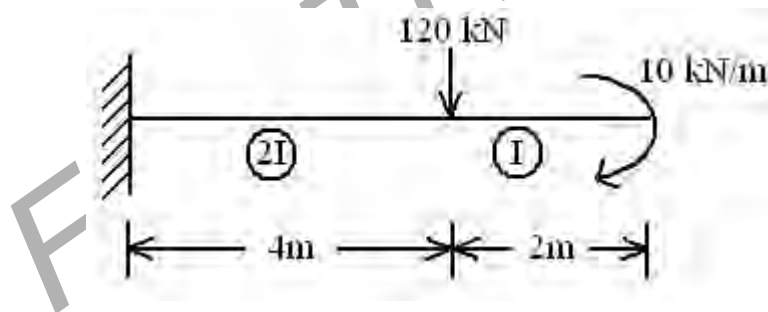

Figure 7:
- (b) Determine the mid-span displacements and slopes at the supports in the beams shown in figure 7 using the method of moment area. [15]